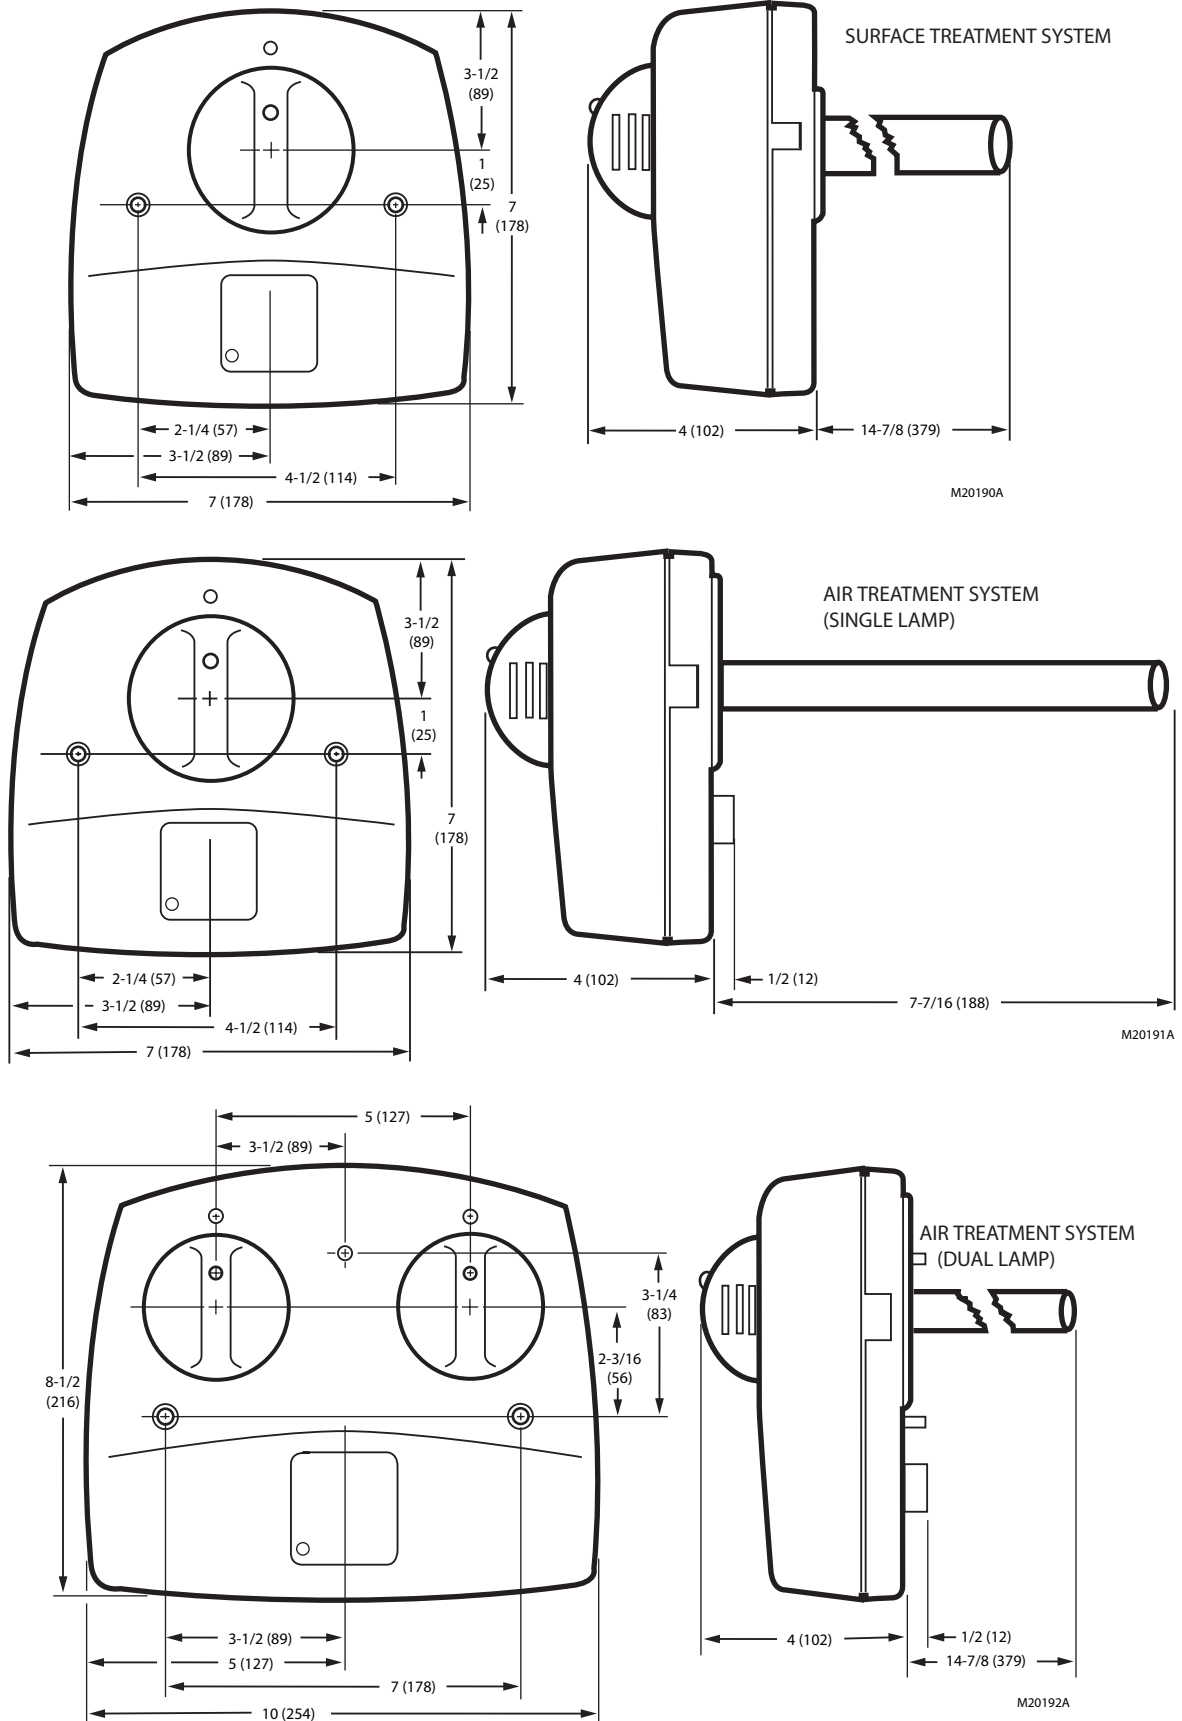

Fig. 3. Ultraviolet System dimensions in in. (mm).
See Fig. 3.
2. Allow clearance in front of the device for removing the lamp assemblies. Fig. 3 shows lamp assembly lengths.
3. Be sure depth can accommodate full length of UV lamp for your model as shown in Fig. 3.